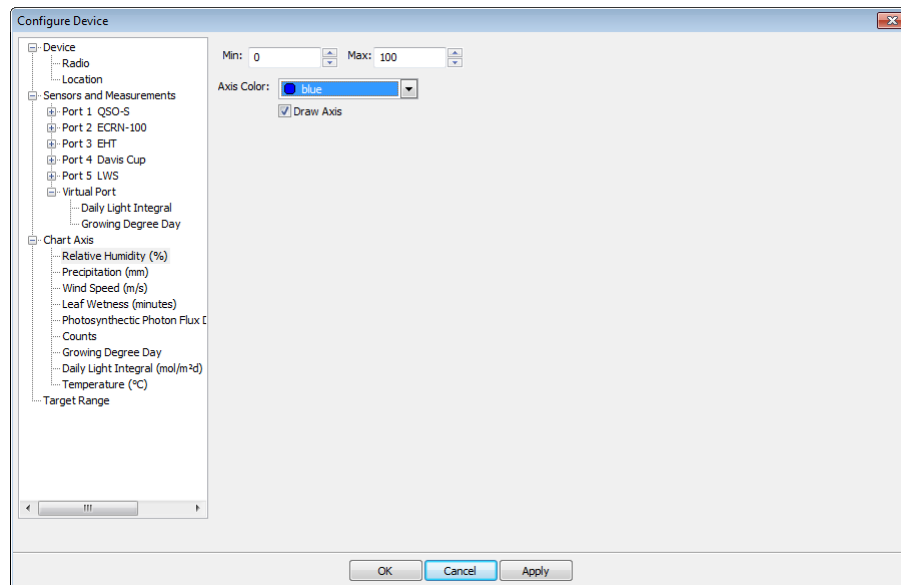

Figure 9. Minimum and maximum values for the parameter relative humidity are set.
- Select each axis under the Chart Axis option (Figure 9).